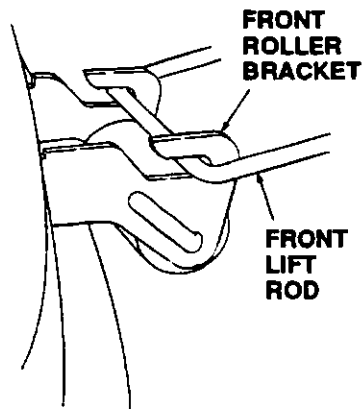

Figure 15
10. Slide deck rearward in order to engage front lift rod fully forward in the slots of the deck front roller bracket. (Refer to Figure 15.)